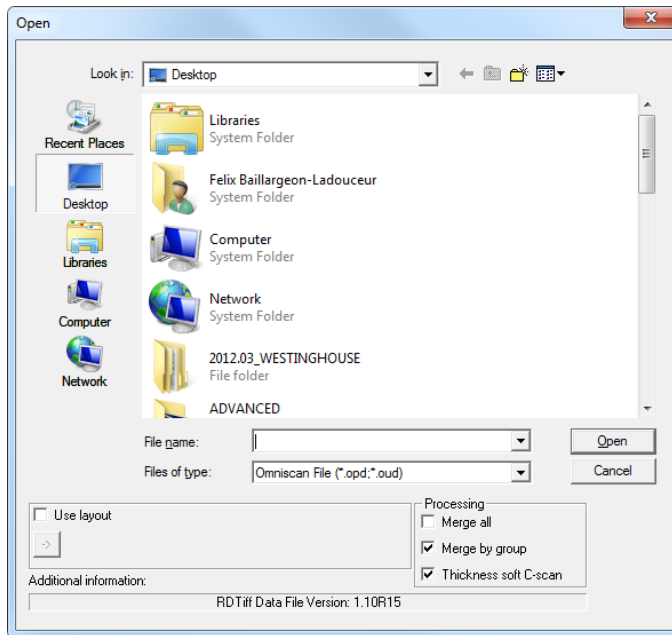

Figure 6-2 The Open dialog box
1. On the **Component** toolbar, click  to open the **OmniScan File Converter** (see Figure 6-2 on page 320).